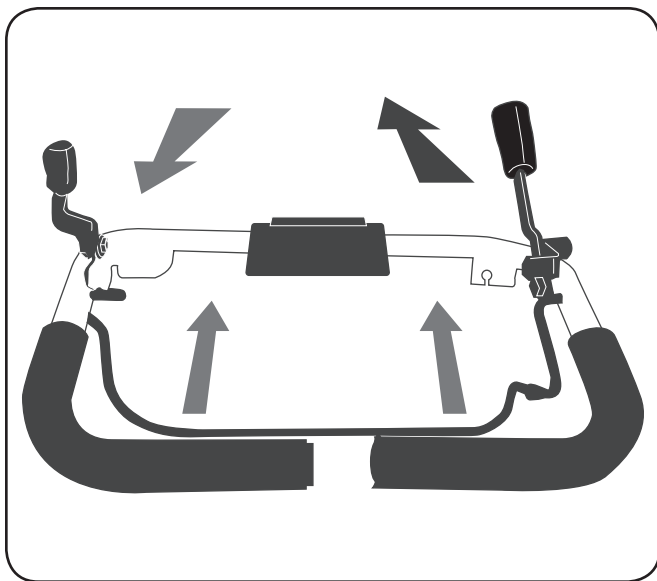

Figure 5-3
- a. Engage the neutral handle rearward and the clutch control bail and the tines and wheels will move forward. See Figure 5-3. To stop the forward motion of the tines and wheels, release the bail.